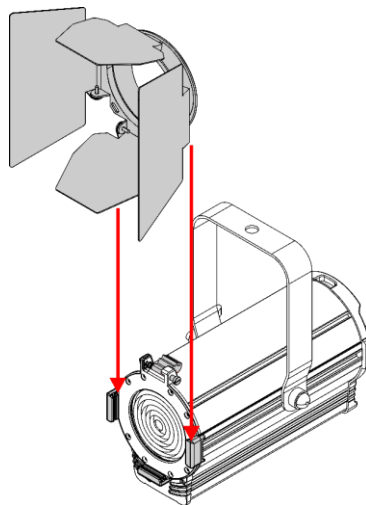

Fig. 11
- 02) Insert the barndoor into the **color frame holders (04)** (see Fig. 11).